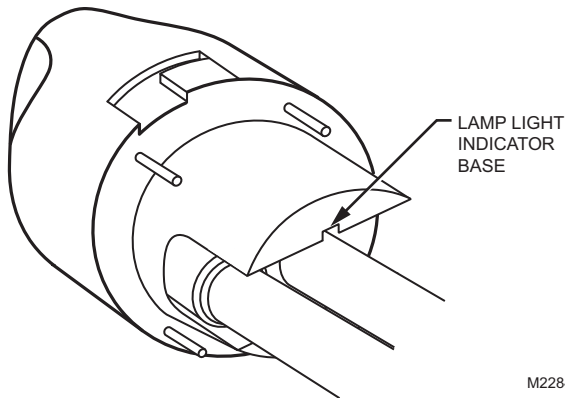

Fig. 15. Wipe lamp light indicator base.
- Also wipe away any dust that may have collected between the lamp light indicator on the base and the black bulb base. See Fig. 15.